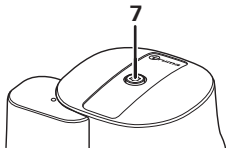
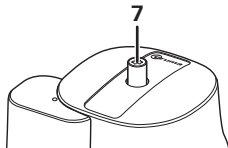

Figure 2a
Figure 2b
The crash sensor has a reset button, the position of which indicates its status: “Ready for operation” position (Figure 2a) or “not ready for operation” position (Figure 2b).
To reset, press the yellow reset button (7) firmly, turn it slightly clockwise, hold it for 5 seconds and ensure that it stays in the “ready for operation” position (Figure 2a).
- Press in the triggering element of the crash sensor (9) sufficiently far that the yellow reset button (7) comes out so that the crash sensor is in the “not ready for operation” position (figure 2b).
- Remove the screw cap (10) from the test connection and connect the test pump with test hose to the test connection.
- Press the yellow reset button (7), turn it slightly clockwise, hold it for 5 seconds and ensure that it remains in the “ready for operation” position (see Figure 2a).
- It is essential to reattach the screw cap (10) every time after it has been removed.